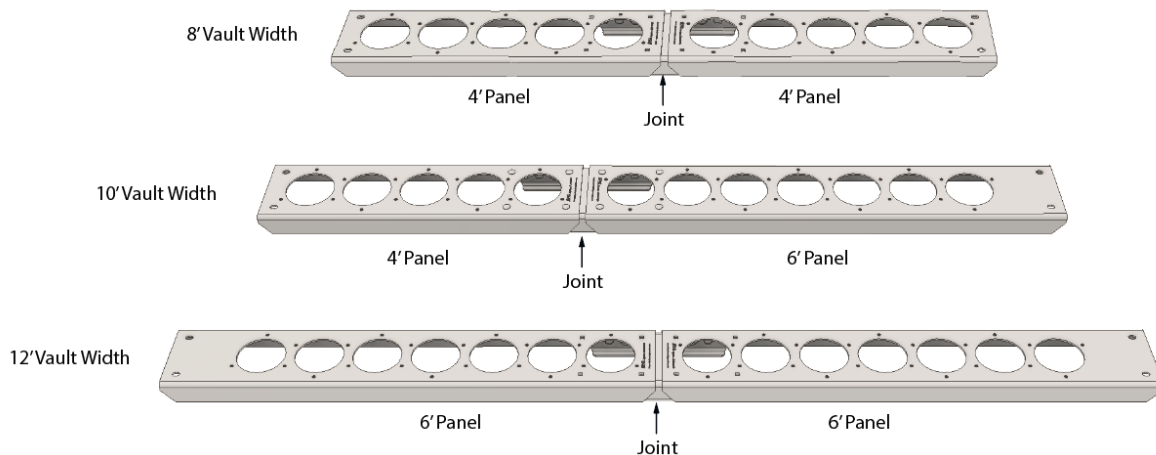

Figure 5
- ii. Lay out parts for one complete panel. Laying parts on edge makes hole alignment easier. See **Figure 5**.